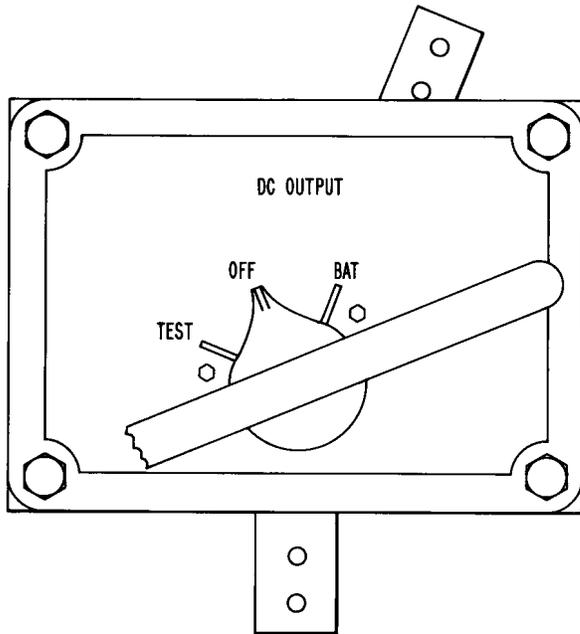

Fig. 2—Faceplate of S3 Switch for L21 and L22 Rectifiers
- (a) **Switch in BAT Position:** Remove the plastic guards from the top and sides of the switch. After the rectifier has been delivering full load for 4 hours or more with the S3 switch in the BAT position (Fig. 2 and 3), the maximum allowable voltage drop (as measured with the